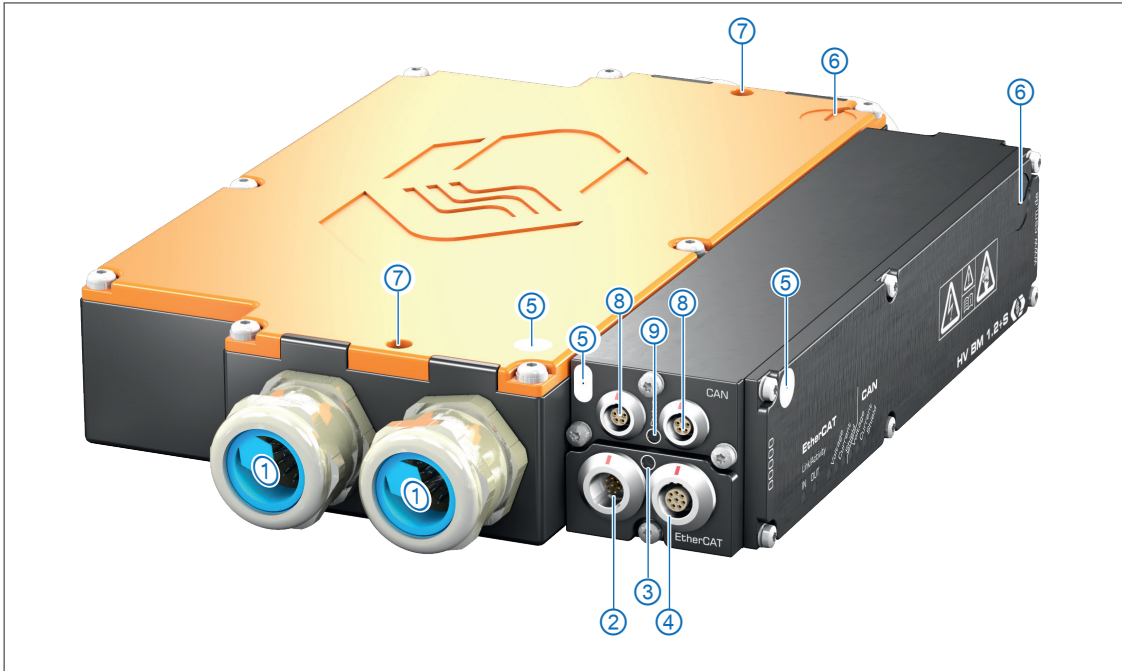

Fig. 3-1: HV BM 1.2+S, connectors and further components
The sockets for EtherCAT® and CAN are located on the left side of the housing (Fig. 3-1, ②/④ or ⑧). The LED indicators are integrated into the front of the module housing (Fig. 3-2, ①, ② and ③). There are two cable glands on each side of the housing for mounting the HV power cables (Fig. 3-1, ①).
The two-colour status LED (Fig. 3-1, ③) is lit red for a few seconds after the module is switched on and then fades out.⁴
The LED indicator (Fig. 3-1, ⑨) between the two CAN sockets indicates the operating status of the measurement module.
- ▶ Six M5 screws⁹ or two M6 threaded bolts (Fig. 3-1, ⑦)